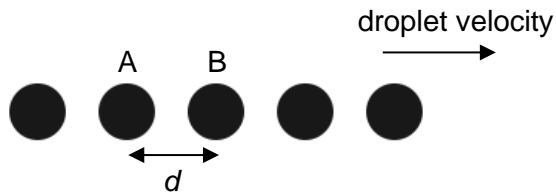

Fig. 8.3
- (a) Fig. 8.3 shows a close-up of a series of spherical ink droplets travelling between the charging electrodes in a CIJ printer. Droplets A and B are two adjacent droplets.